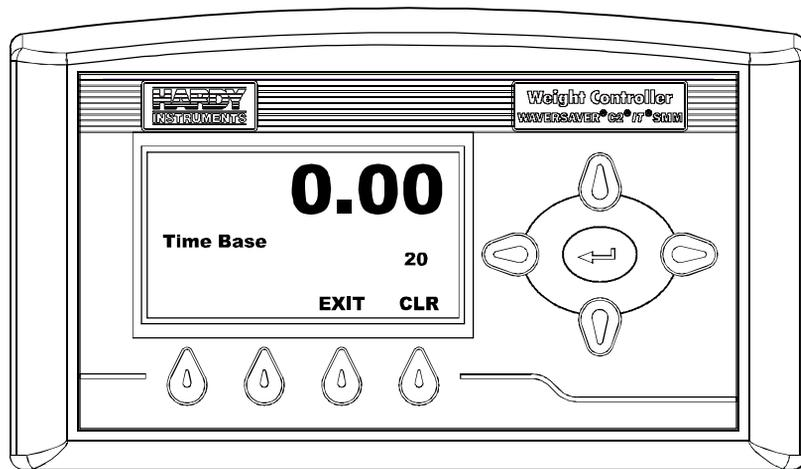

FIG. 143 TIME BASE/SETTING TIME/20
Step 1. Press the Enter button. The Time Base Menu appears. (See Fig. 143)